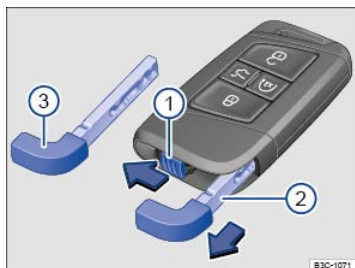

Fig. 55 Releasing the emergency key and removing it from the remote control vehicle key.
Key to ⇒ Fig. 55 :
- ① Emergency key release.
- ② Removing the emergency key.
- ③ Emergency key bit.
There may be an emergency key ⇒ Fig. 55③ inside the remote control vehicle key fob.
To remove the emergency key: Move the sliding lock ⇒ Fig. 55① in the direction of the arrow. At the same time, push the emergency key out of the slot in the remote control vehicle key in the direction of the arrow ②.